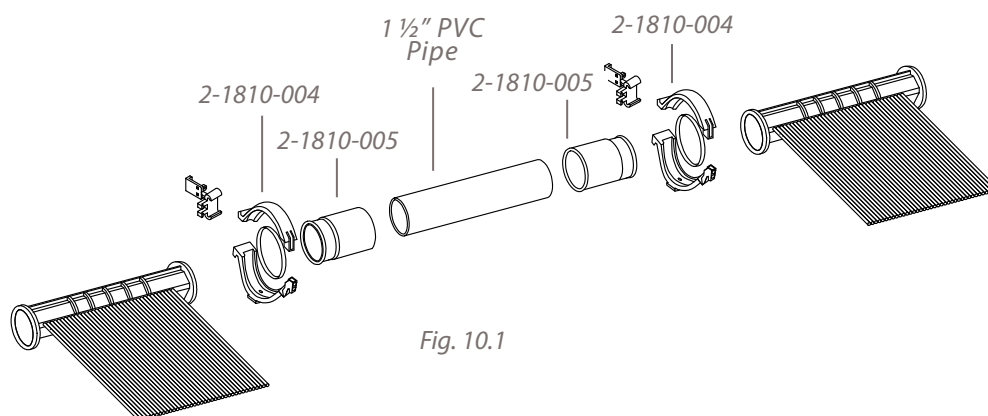

Fig. 10.1
1. Connect (4) of the (2-1810-005) pipe connectors to the headers of the collectors to be connected with a (2-1810-004) plastic panel clamp using the same procedures outlined in the section on connecting solar collectors together on page 12.
3. Cement the PVC pipe to the pipe connectors as shown in Fig. 10.1.